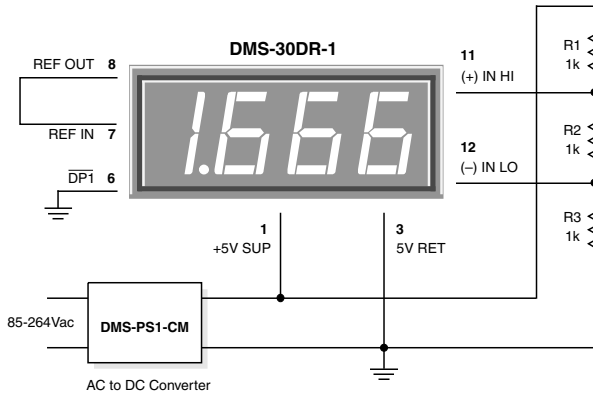

Figure 3. Differential Input Configuration
**2. Differential Input Configurations:** Differential measurements can be made with all DMS-30DR meters. Figure 3, though not a practical real-world application, uses a voltage divider to demonstrate the concept of a differential input signal. Be careful not to exceed the ±2V common mode voltage limitation for 5V-powered meters.